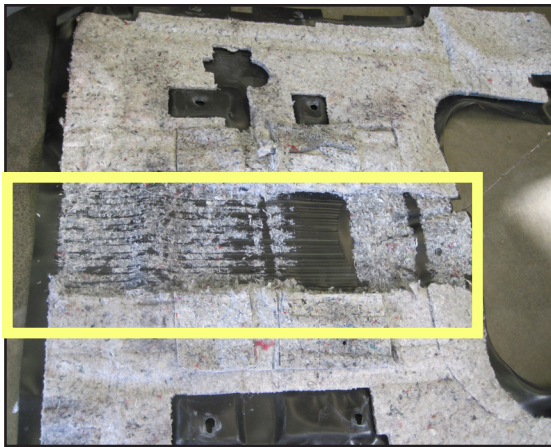

Figure 21. Remove Batting from Floor Mat
3. Cut off the batting in a swath as wide as the cover of the yaw sensor and the entire length, front to back, of the mat (see Figure 21). This will allow the routing of the 1" hose under the Blower for proper cooling of the yaw sensor.